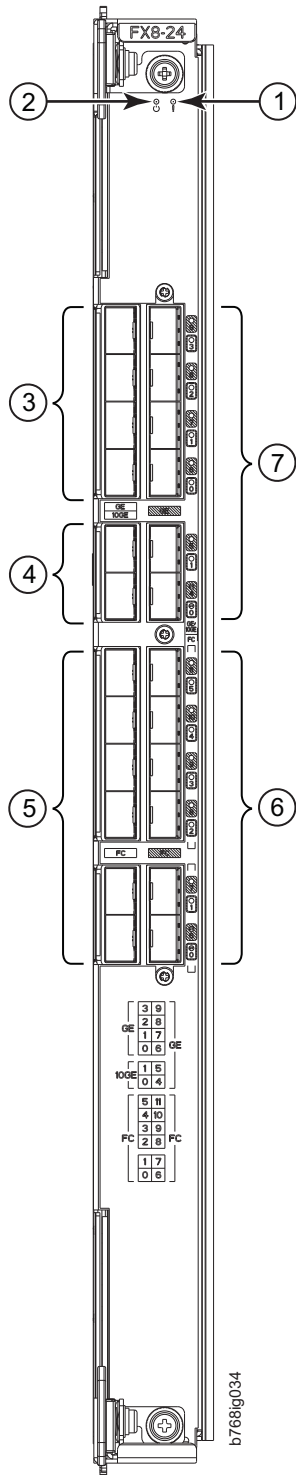

Figure 54. FX8-24 extension blade
- Figure 54 on page 168 shows an FX8-24 extension blade